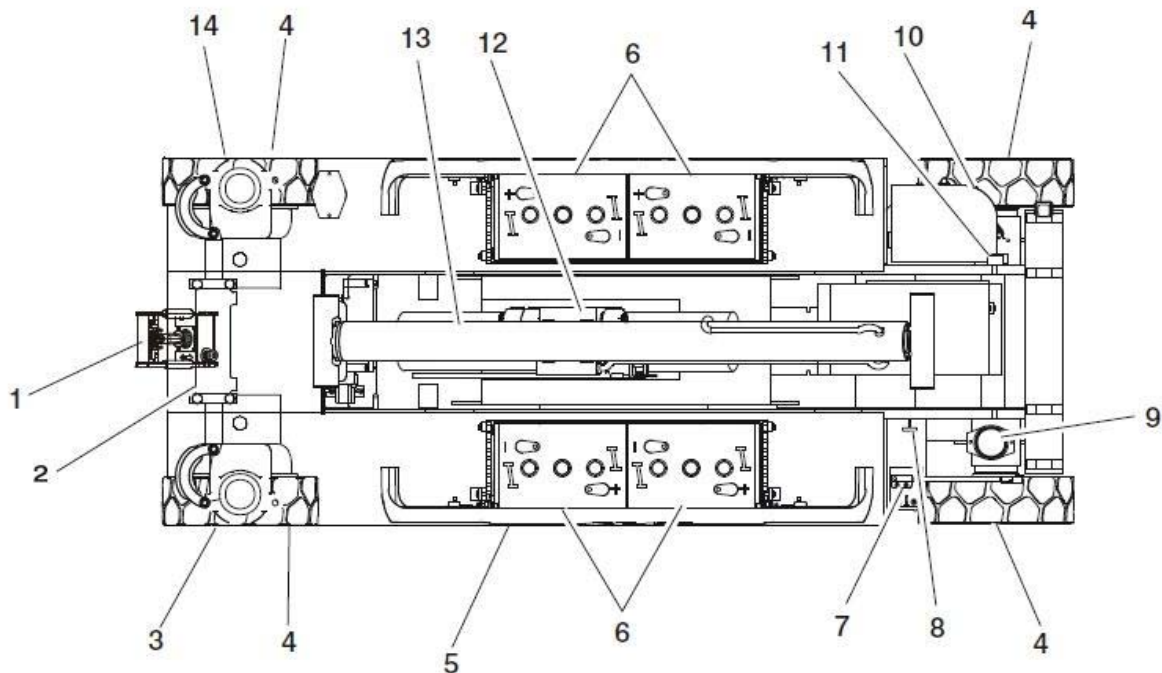

Figure 2-1. Daily Walk-Around Inspection - Sheet 1 of 3
- “Walk-Around” Inspection** – Refer to Figure 2-1